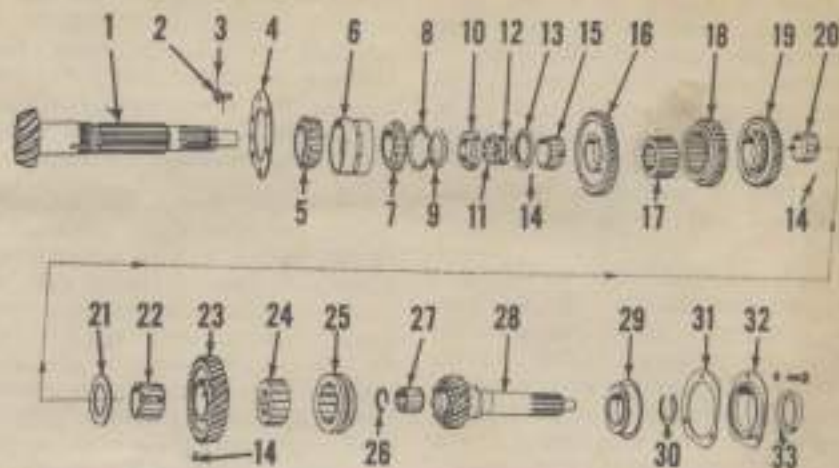
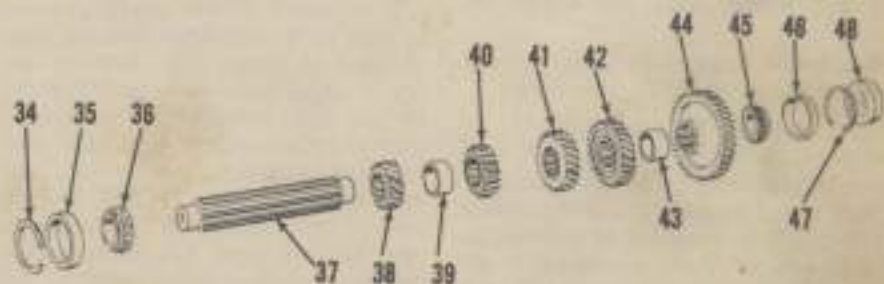

Fig. 122 — Exploded view of the D-17 transmission main drive (input) shaft (28), bevel pinion shaft (1) and associated parts.
Fig. 123 — Exploded view of the D-17 transmission countershaft (37) and related parts.
182. **MAIN DRIVE (INPUT) SHAFT.** To remove and overhaul this shaft, proceed as follows: Split the transmission housing from torque housing as outlined in paragraph 180. Remove the large snap ring retaining the "Power-Director" clutch hubs in the clutch assembly; then, withdraw the spacer, the two clutch hubs and the thrust washer. Remove the small snap ring that retains clutch assembly to transmission shaft and pull clutch from shaft. Remove the transmission cover as outlined in paragraph 179. Remove the cap screws attaching the bearing retainer (32—Fig. 122) to the transmission housing; then, working through the top cover opening,
At tractor Serial No. D17-13075, a new bearing (29—Fig. 122) was used in production. It is recommended that this bearing (Allis-Chalmers Part No. 231175) be used to renew bearing on prior production tractors. Install this later type bearing with shielded side to rear. Also, discard undrilled retainer cap screws on the early models and install cap screws with drilled heads. Tighten the retainer cap screws to a torque of 10-15 Ft.-Lbs. and securely tie wire through drilled heads.
**183. BEVEL PINION SHAFT.** To remove the bevel pinion shaft, the input shaft must be removed as outlined in paragraph 182 and the differential unit be removed as outlined in paragraph 197. Then, working through the differential compartment, remove the locking wire (3—Fig. 122 or 123), cap screws (2) and bearing retainer (4). Remove snap ring (26) from front end of pinion shaft and withdraw the splined coupling (25) and splined collar (24). Then, bump or push bevel pinion shaft (1) to rear removing gears, collars, bushings, washers, retainer (12) and split collar (11) as the shaft is moved to rear. Bearing assembly (5, 6 and 7), locking washer (8) and retaining nut (10) will be removed with pinion shaft.
**NOTE:** The first, second and third gears turn on bushings (15, 20 and 22). Each bushing is prevented from turning on the pinion shaft by small pins (14) which are inserted in holes in the bushings from the inside and engage splines in the pinion shaft.
**184. COUNTERSHAFT.** To remove countershaft and gears, the bevel pinion shaft must first be removed as outlined in preceding paragraph 183. Then, remove plug (48—Fig. 123 or 125) and snap ring (47) from front face of transmission housing. Thread slide hammer adapter into front end of shaft and bump shaft forward out of housing; or, drive shaft out to front with a soft drift punch. Gears (38, 40, 41, 42 and 44), spacers (39 and 43) and rear bearing cone (36) can be removed out top opening. Front bearing cone (45) and cup (46) will be pulled with shaft. If necessary to renew rear bearing cup (35), drive cup out to front.
Fig. 125—Cross-section view of the D-17 transmission showing assembly of transmission input shaft, bevel pinion shaft, countershaft and related parts. Exploded views of component parts are shown in Fig. 122 and Fig. 123.